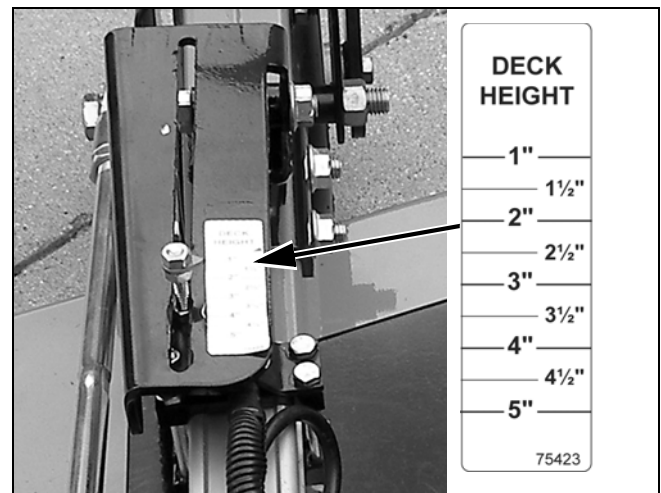

Figure 28. Deck Height Indicator Decal Installed
3. With mower deck level, place deck height decal (75423) on top of height gauge bracket to correspond to blade height. See Figure 28.